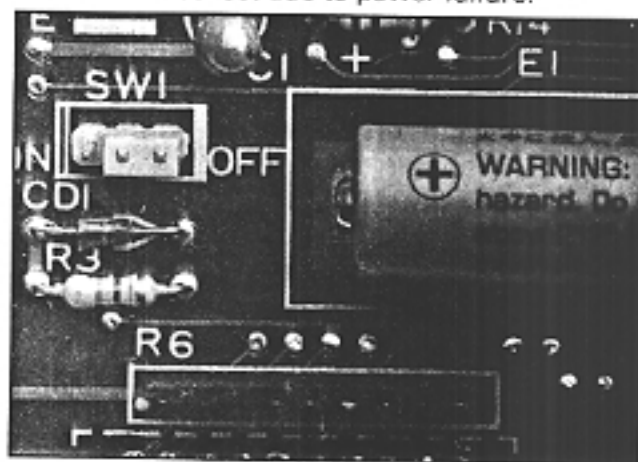

FIGURE 42
09.02 Refer to Figure 42 and verify that the battery on the MCDU/CMTU is connected to ensure that data changes entered after initialization will not be lost due to power failure.